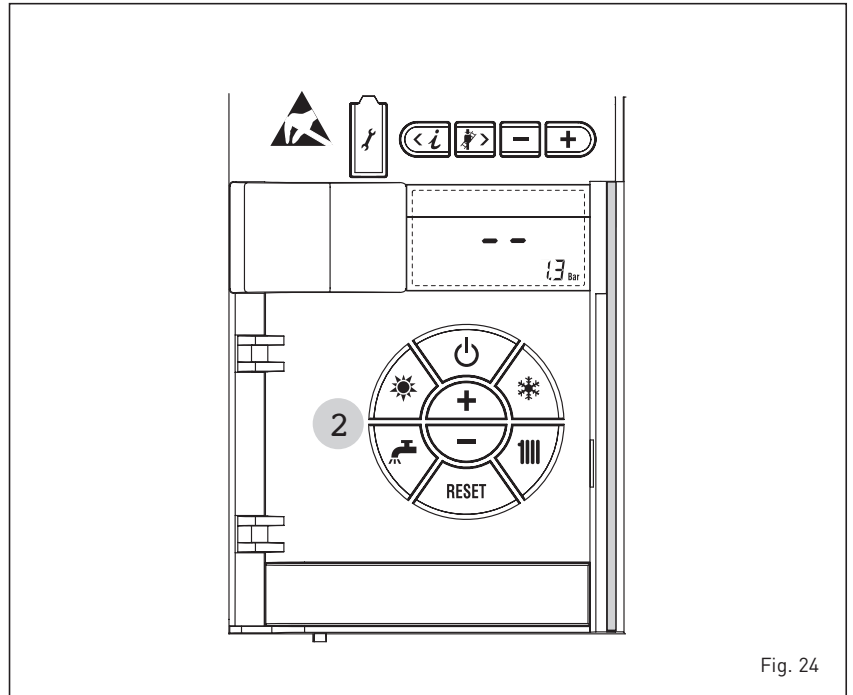

Fig. 24
### BOILER IGNITION (fig. 24)
### TO SWITCH OFF THE BOILER (fig. 24)
In the case of a short absence, press the key ( ) of the controls (pos. 2). The display will be as shown in the fig. 24. In this way, leaving the electricity and the fuel supply connected, the boiler is protected from frost and from the pump becoming jammed.